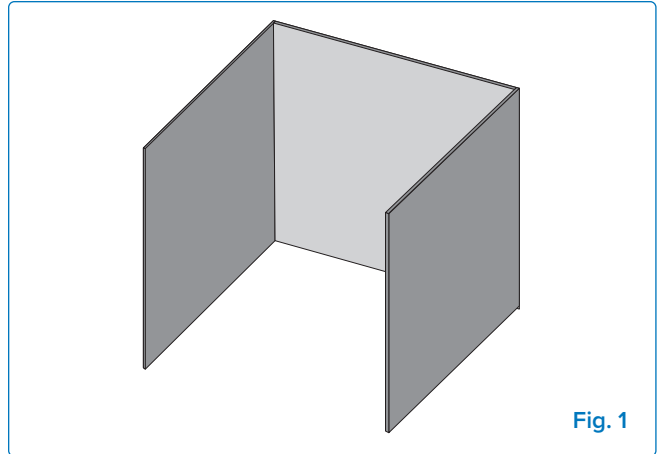

Fig. 1
- The appliance is considered outdoors if installed in a shelter with walls on three sides but no overhead cover (**Fig 1**).